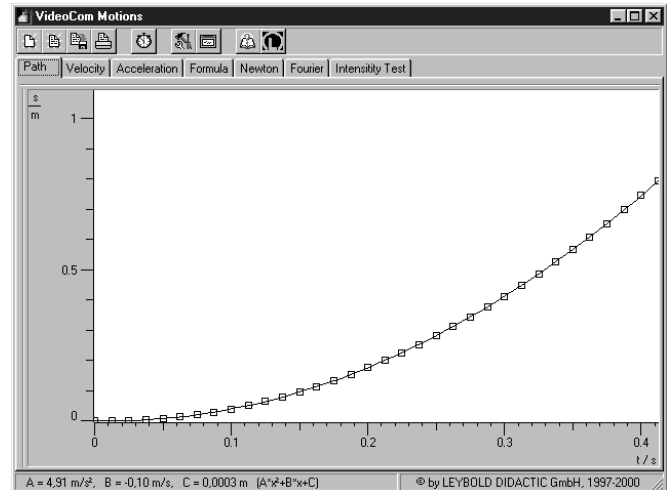

Fig. 3 Path-time diagram of the falling body.
Fig. 3 shows the recorded path-time diagram of the falling body. The covered path  $s$  does not depend on the time  $t$  linearly. The time dependence corresponds to a parabola (cf. (I)).